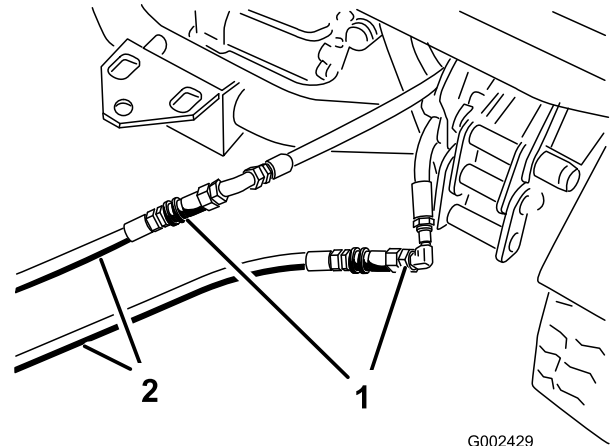

Figure 93
3. On the disabled vehicle, connect the 2 jumper hoses to the hoses that were disconnected (Figure 93).